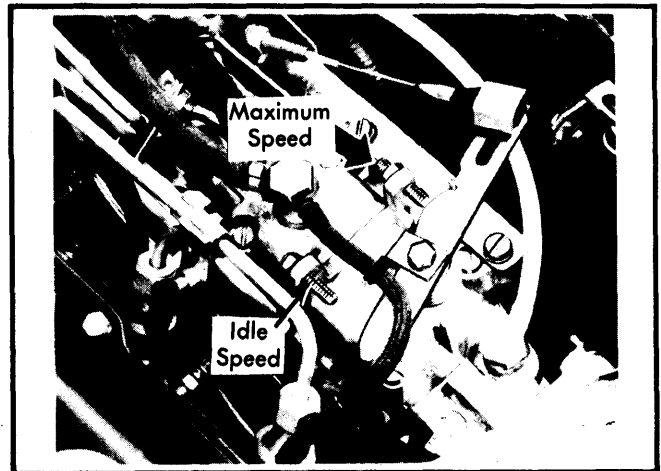

Fig. 19. Adjusting Idle and Maximum Speeds (Volkswagen Vehicles)
2) To adjust, loosen lock nut and turn screw in to raise idle speed and out to lower it. See Fig. 19. Retighten lock nut with paint.